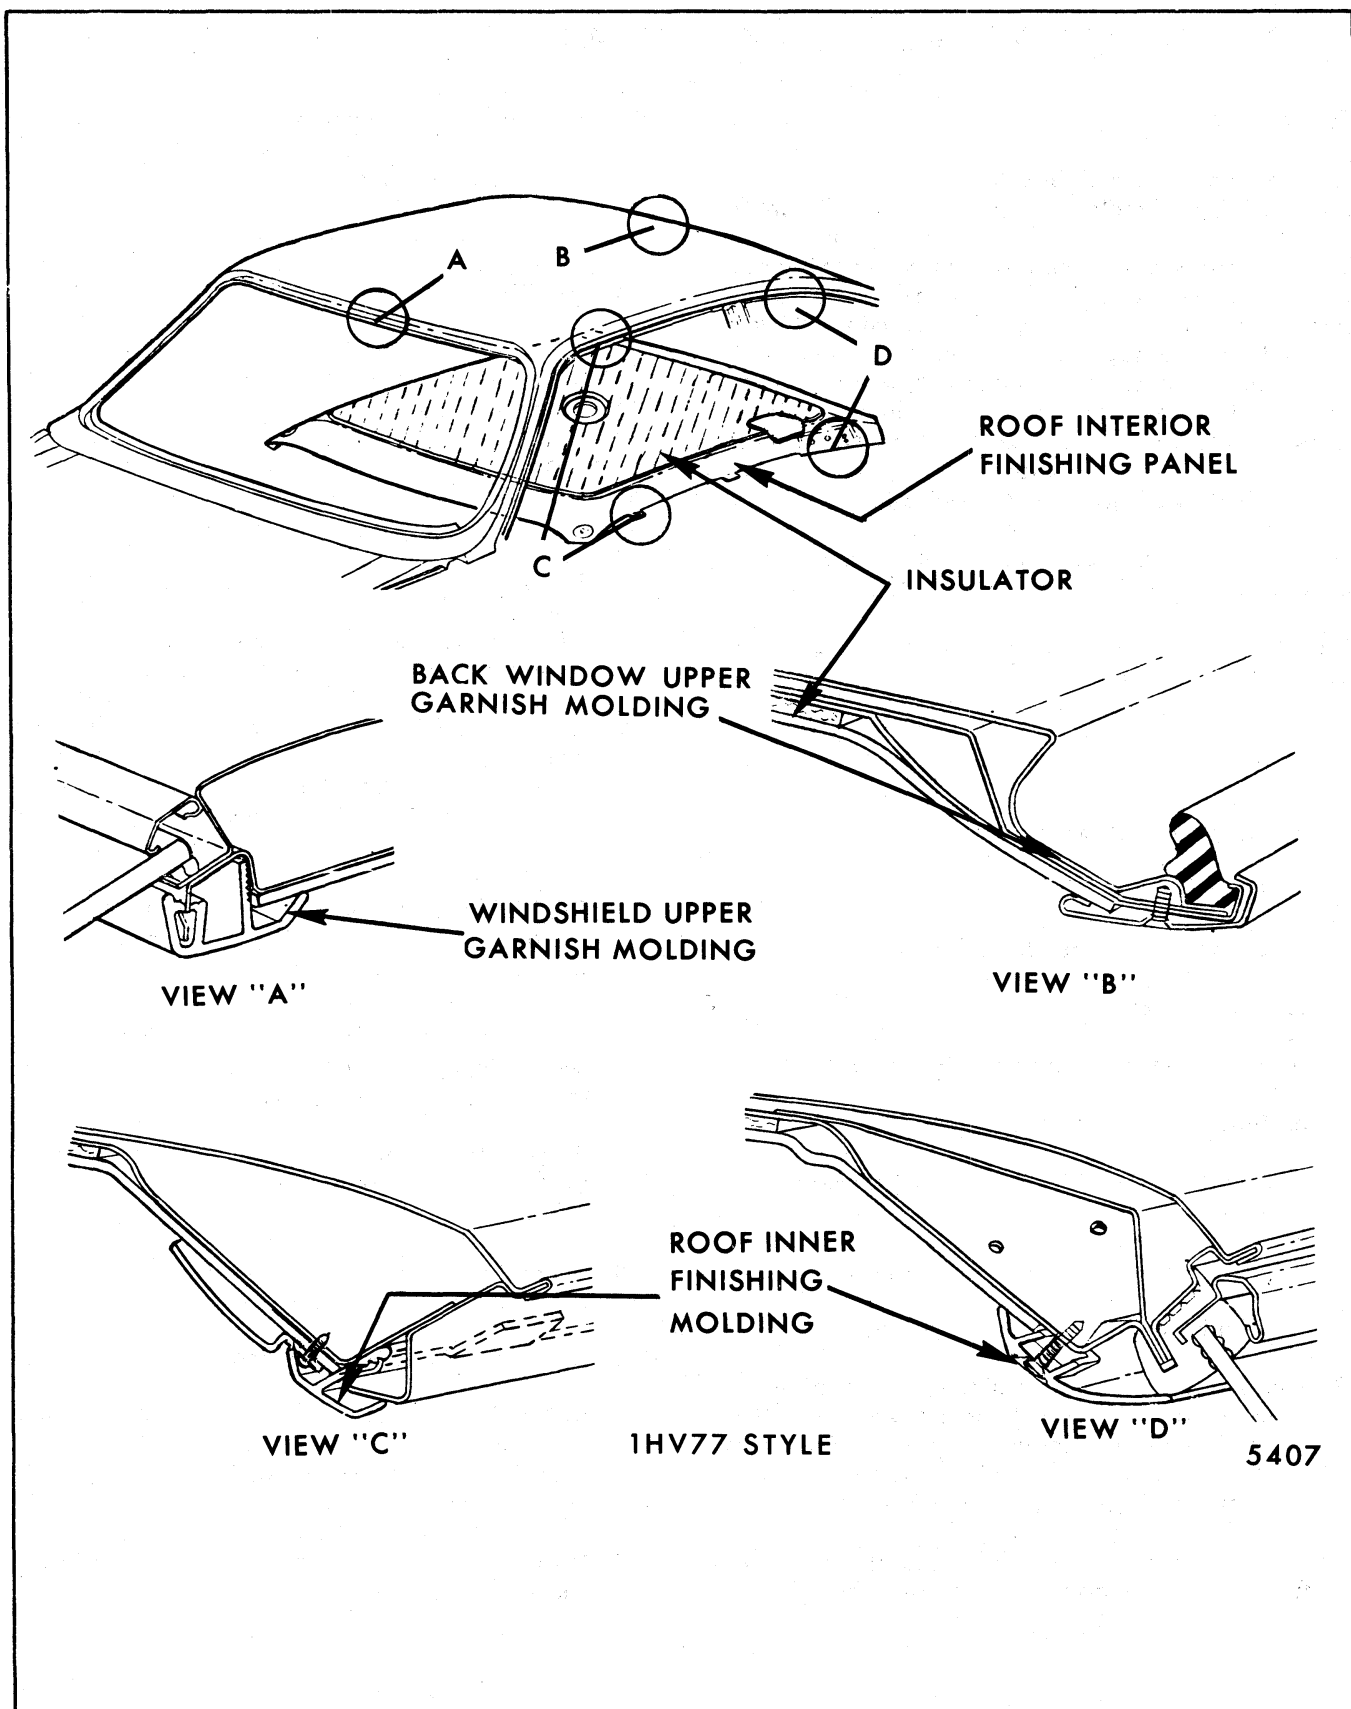

Fig. 8-6-Headlining (Roof Interior Finishing Panel) Assembly - "77" Styles ("07" Styles Similar)
The one-piece formed headlining on "F and X" styles consists of molded hardboard covered with a foam and vinyl facing. On "H" styles a grained perforated hardboard with an insulator cemented to the upper surface is used. The formed headlining is held partially in place by retaining tabs located in the side roof rail which engage recessed slots in both sides of the headlining assembly. Final attachment is accomplished when the interior moldings and attaching screws that retain the sunshade brackets, dome lamp base, coat hooks and shoulder strap retainer covers are installed (see Figs. 8-6, 8-7 and 8-8).
2. Disengage tabs on each side of the headlining assembly from the attaching slots and move the assembly rearward enough to provide clearance for the front of the assembly to the front door opening (see Figs. 8-6, 8-7 and 8-8).